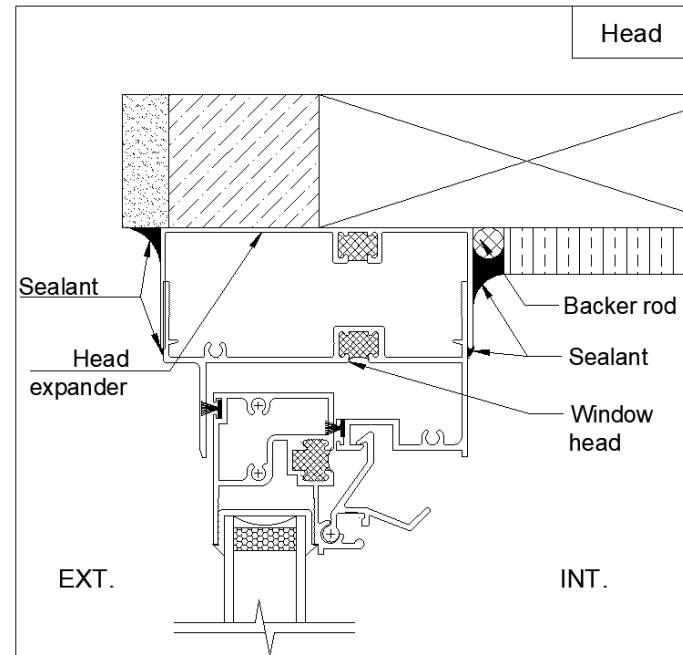

Figure 10: Side View of Head
2.3 Move up the head expander on the window head if necessary, make sure there's no gap between the window frame and opening (refer to figure 10). Check the sill is level, both jambs are plumb. Measure the diagonals of window frame to check the squareness, the difference of diagonals should be within 1/8".